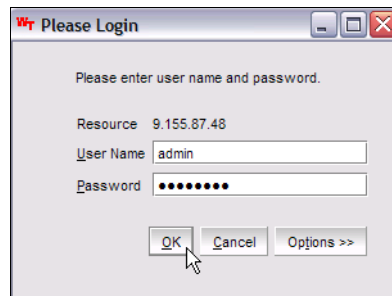

Figure 12-29 Login dialog box
3. Log in using your User name and Password (see Figure 12-29).